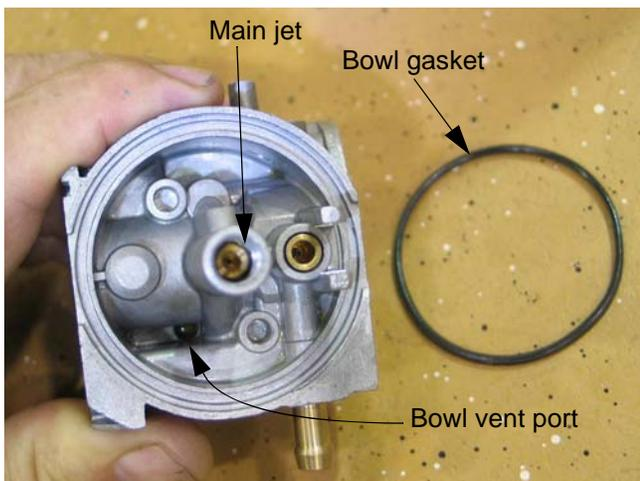

Figure 4.47
6. Remove the main jet by using a narrow-shank straight blade screwdriver. See Figure 4.47.